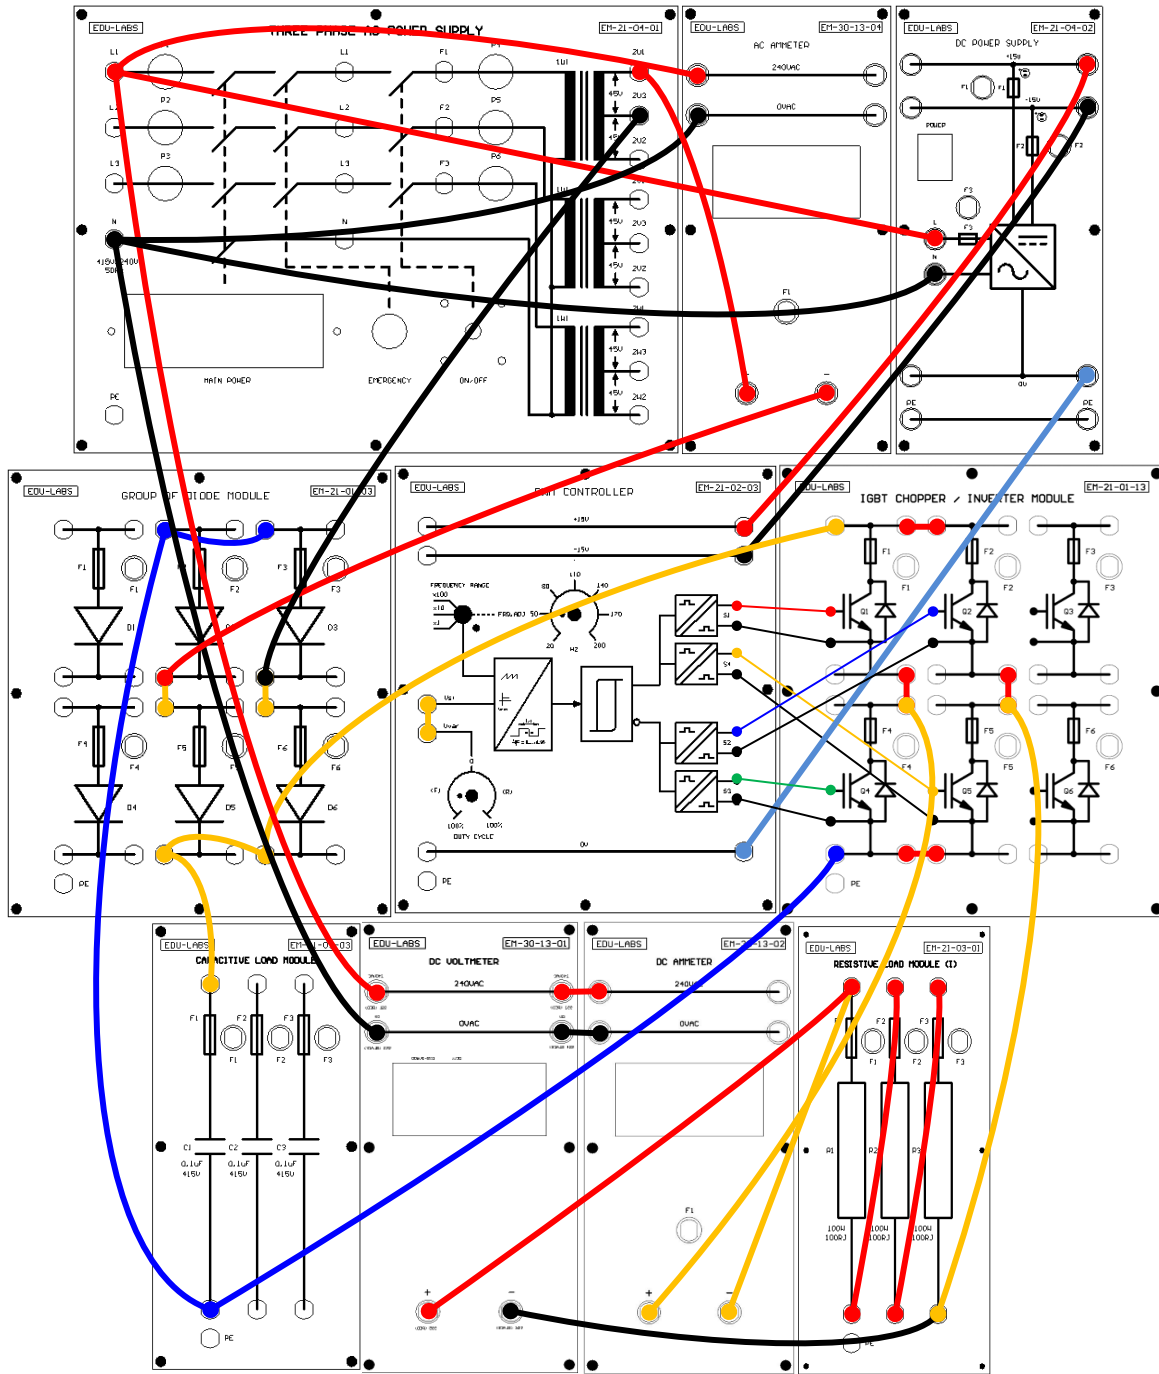

Figure 26.2 Circuit diagram for measure the output current
1. Construct the circuit according to circuit diagram Figure 26.2.